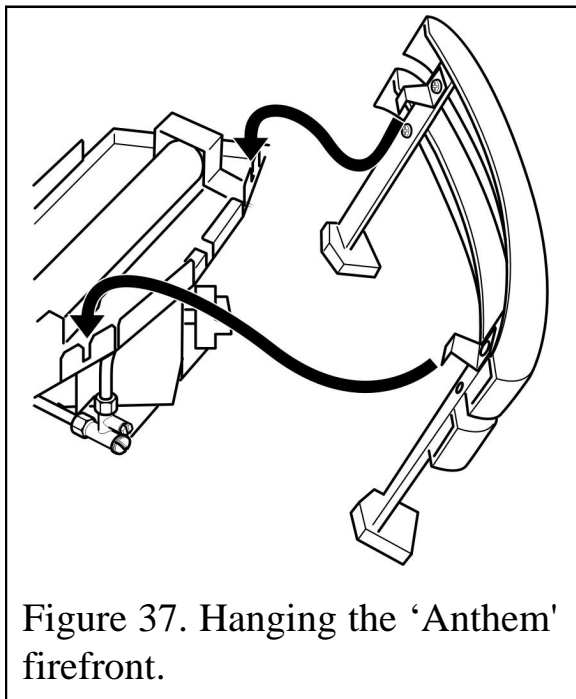

Figure 37. Hanging the 'Anthem' firefront.
4. Hang the firefront casting onto the burner tray front (See figure 37)